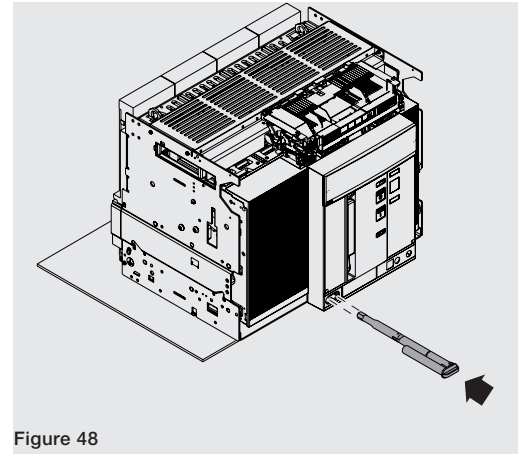

Figure 48
13. Replace the crank in its housing See Figure 48.